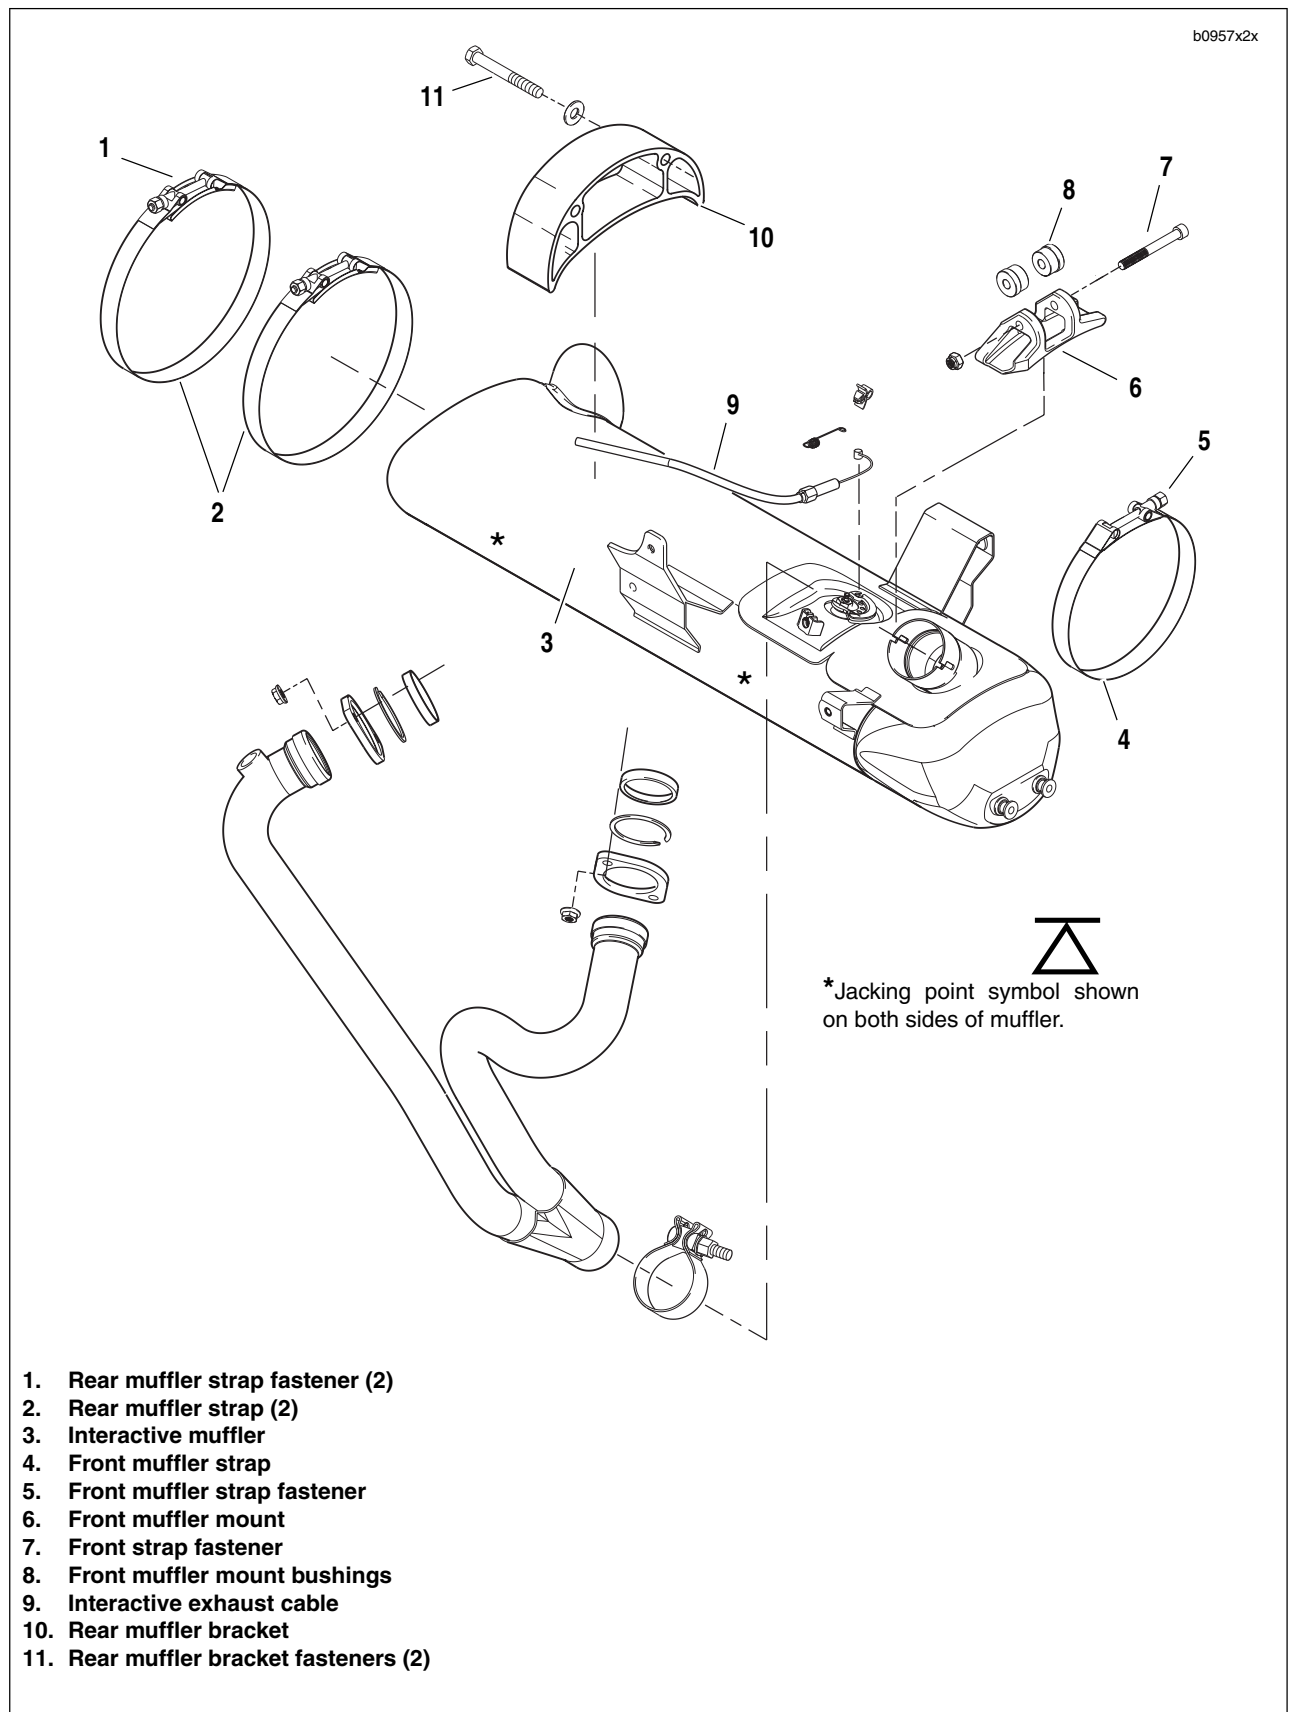

Figure 2-104. Muffer Assembly
5. See Figure 2-104. Loosen front muffler mount fastener (7) but do not remove.
**Front:** Remove front muffler strap fastener (5). Front strap will not be removed.
2. See Figure 2-104. Remove front muffler mount fastener (7).
3. Remove strap (4) from front muffler mount (6).
4. Remove front muffler mount bushings (8) by punching out with suitable tool.
4. See Figure 2-104. Remove rear muffler bracket fasteners (10).
5. Slide oil lines from rear muffler bracket and remove rear muffler bracket (9).
1. See Figure 2-104. Slide rear muffler bracket (9) over oil lines.
2. Install rear muffler bracket fasteners (10) and tighten to 32-36 ft-lbs (43-49 Nm).
1. See Figure 2-104. Install front muffler mount bushings (8).
2. Install **new** strap on front muffler mount (6).
3. Install front muffler mount fastener (7) loosely. **Do not tighten.**
2. See Figure 2-104. Loosely install **new** front and rear muffler straps (2, 4).
4. See Figure 2-104. Tighten front muffler mount fastener (7) to 16-18 ft-lbs (21.7-24.4 Nm).